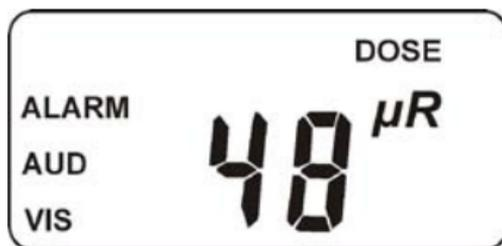

Figure 8 The Dose Display
- The Dose Mode display (Figure 8) will show you the dose that has accumulated since the unit's memory was last reset to zero.
There are several indicators for the High Dose Alarm Threshold (Figure 8).
There are several indicators for the Low Dose Alarm Threshold (Figure 8).